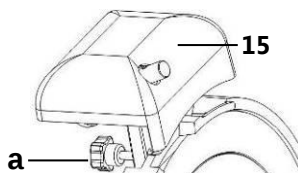

Fig. 9
- Loosen the fixing screw (a) of the sharpener (15) on the back side of the device (fig. 9).
- Remove the sharpener (15) and turn it by 180°.
- Remove the sharpener from the device. (Fig. 9).
- Remove the entire sharpener unit from the device (fig. 9).